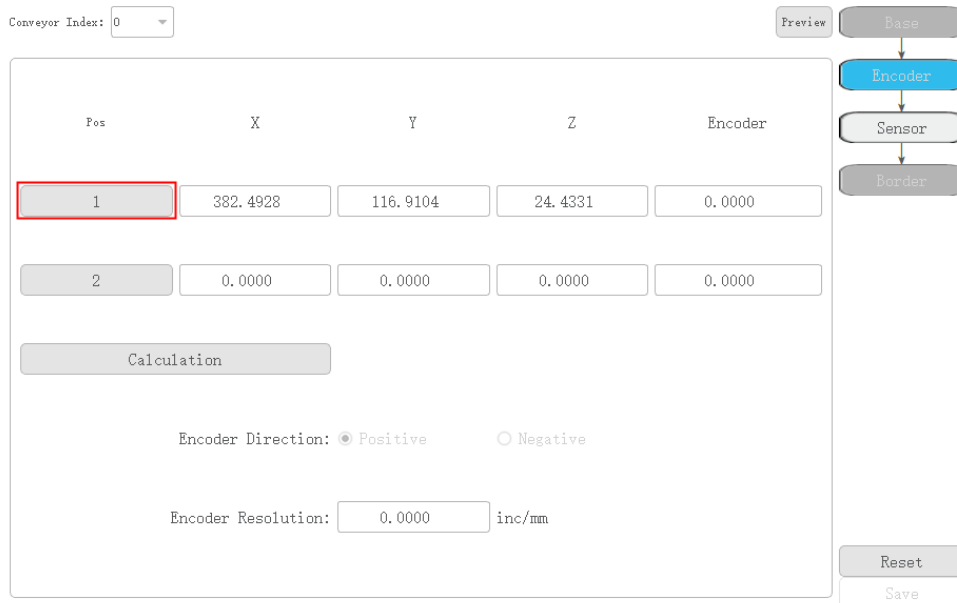
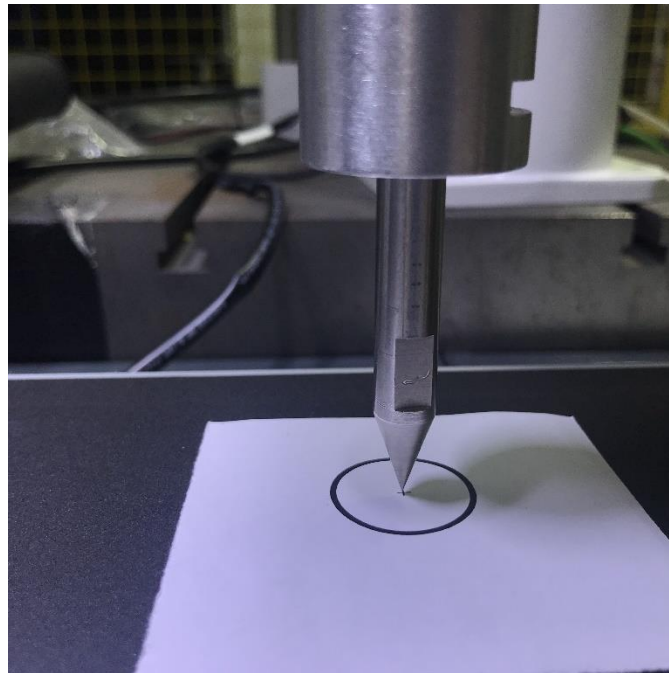

Figure 3.12 Encoder calibration page
Figure 3.13 Encoder calibration
2. Enable the motor and jog the robot to the label position on the conveyor, then click **1**, as shown in Figure 3.12 and Figure 3.13.